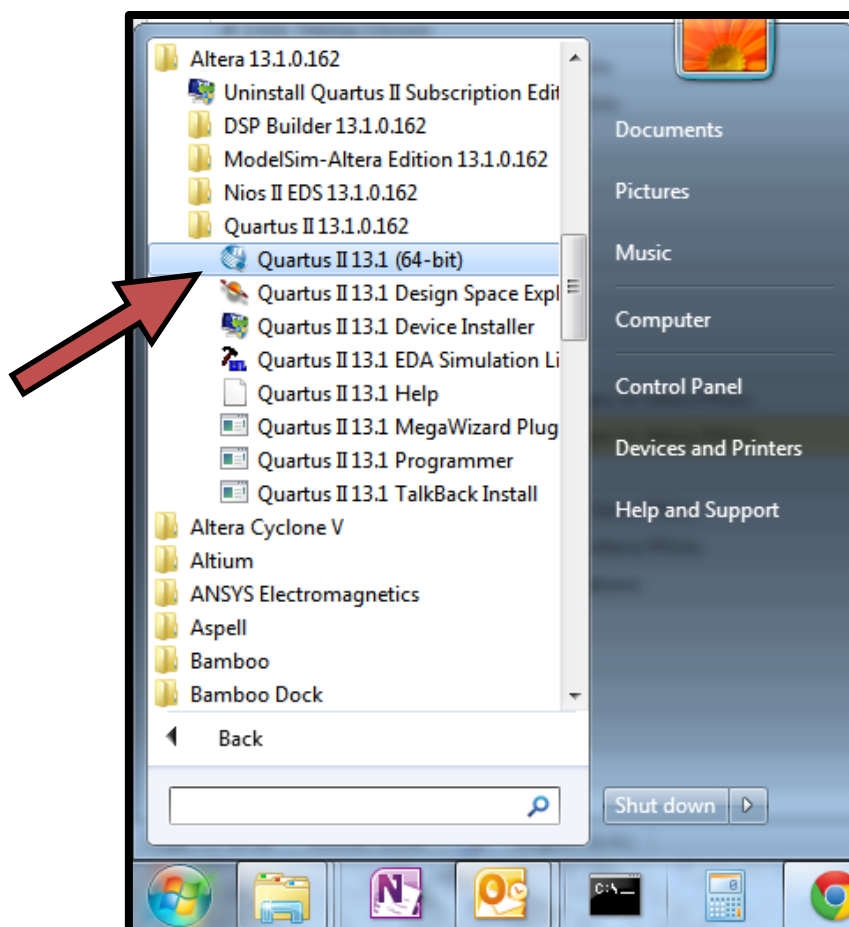

Figure 34: Opening Quartus II
1. Open Quartus II (It may be both, the 32bit or 64bit versions) (see Figure 34).